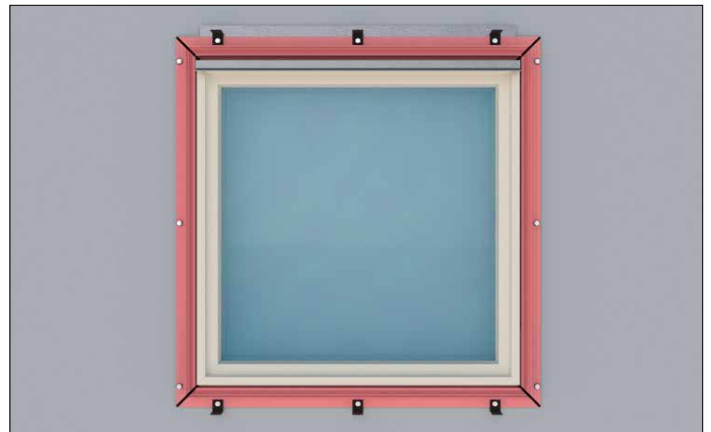

Figure 2
2. Attach P11 back plates cut to 45° around the window. For the P11 sill and head of window, add P30 plank backer 2" from ends and 16" center (Figure 2).